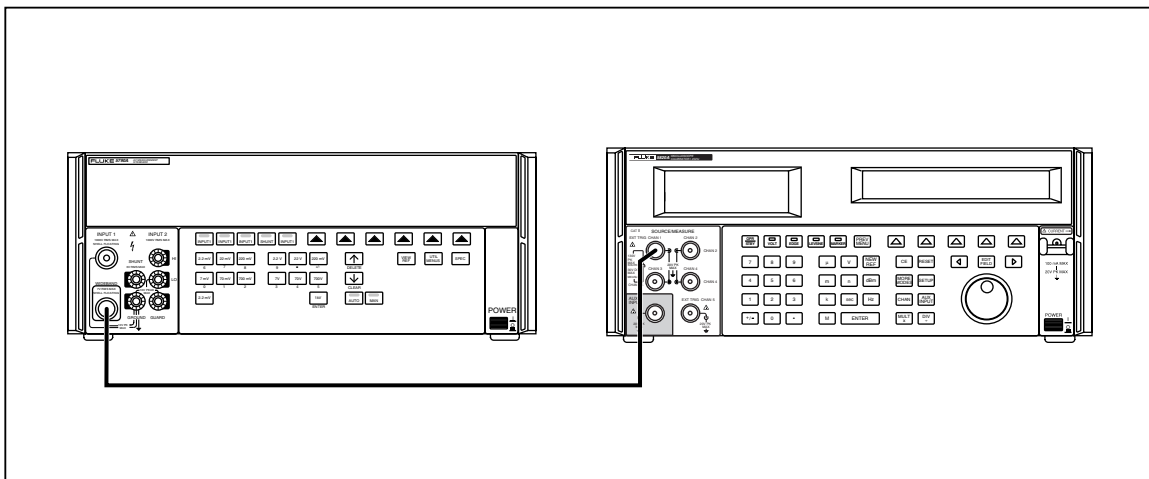

Figure 3-3. Connecting the Calibrator Mainframe to the 5790A AC Measurement Standard
1. Connect the N to BNC cable to the Calibrator Mainframe's CHAN 1 connector. Connect the other end of the N to BNC cable to the 50 Ω feedthrough termination then to the 5790A INPUT 2 using the BNC(f) to Double Banana adapter. Refer to Figure 3-3 for the proper equipment connections.